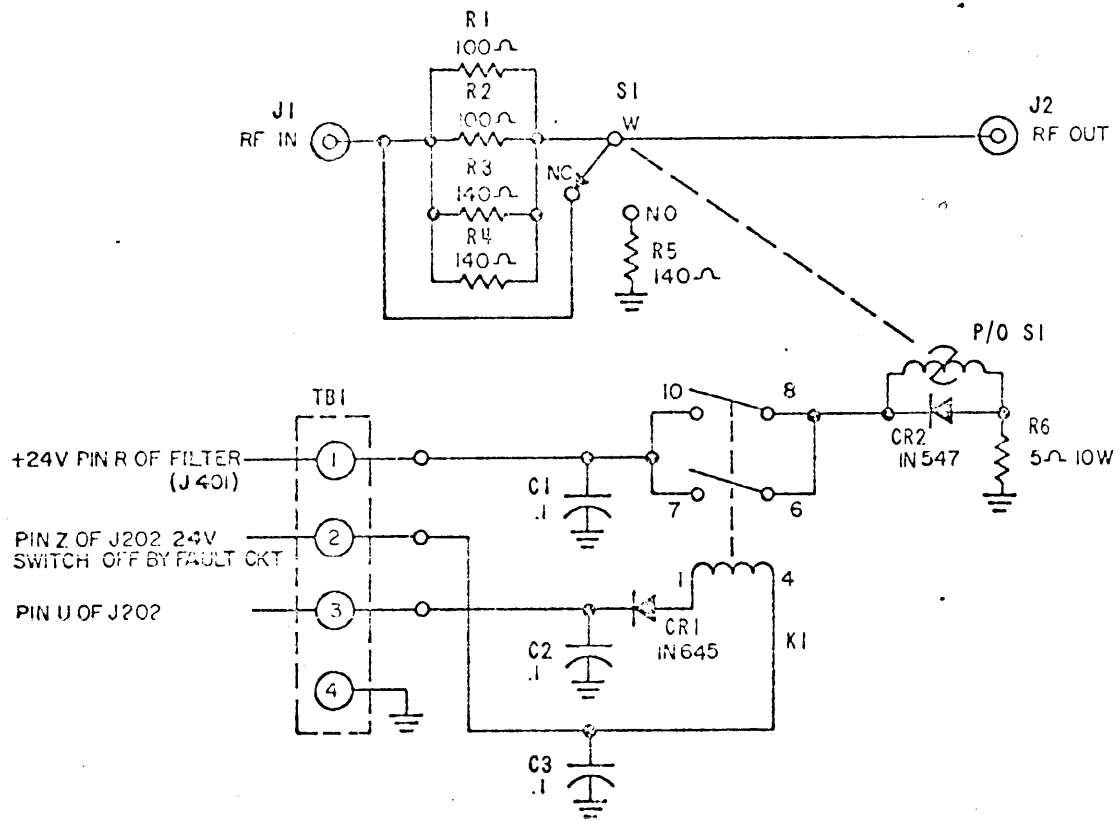

Figure 1. Switchable Load Resistor Assembly
1. On first page of Switchable Load Resistor Assembly write up, change the first sentence in the last paragraph from, "During the initial tuning cycle of the transmitter Resistor Assembly relay K1 is energized and the normally open relay contacts (7)(10) and (8)(6) close providing 24 vdc to ledex motor (P/O switch S1).", to "During the initial tuning cycle of the transmitter Resistor Assembly relay K1 is energized and the normally open relay contacts (7)(10) and (9)(6) close providing 24 vdc to ledex motor (P/O switch S1)."
2. On figure 1 of the Switchable Load Resistor Assembly, make the following pen and ink corrections:
### Theory of Operation (Refer to Figure 1)